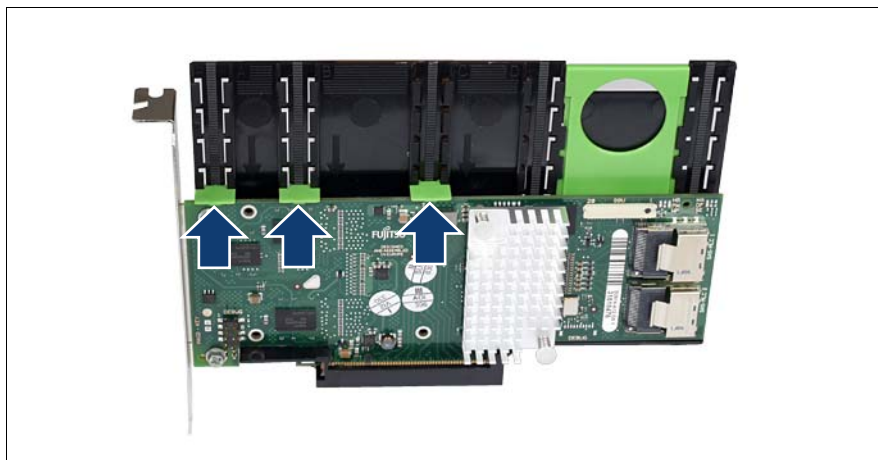

Figure 29: Removing the expansion card from the removal tool
When removing the expansion card from the removal tool, pay particular attention to the engaging hooks that fasten the board to the removal tool (see arrows in figure 29). Do not lift them by more than approx. 1 mm, in other words only as far until the expansion card is released. Otherwise you could damage the engaging hooks.
- ▶ Remove the dummy module in the same way as a PCI board (see figure 29 on page 110).